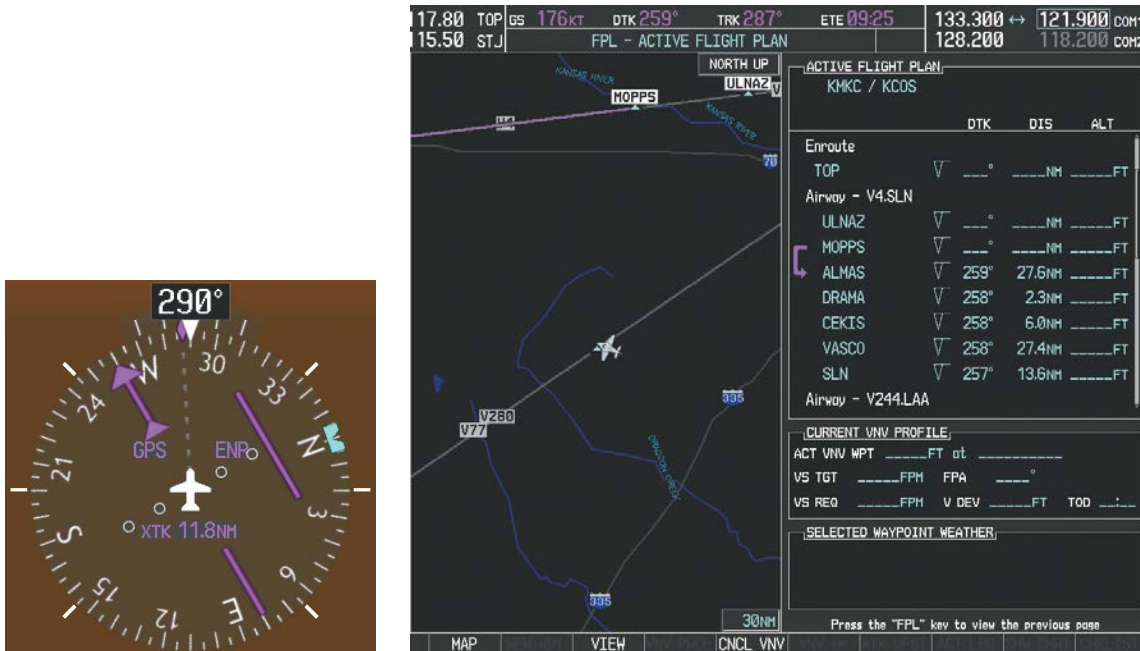

Figure 5-121 V4 Now Active Leg
- d) Verify the displayed leg is the desired leg and press the **ENT** Key. Note in Figure 5-121, the magenta arrow in the flight plan window and magenta line on the map indicating V4 is now the active flight plan leg. Note the phase of flight remained in Terminal (TERM) mode up to this point because a departure leg was active. Since a leg after the departure is now active, the current CDI flight phase is ENR (Enroute) and CDI scaling has changed to 2.0 nm.